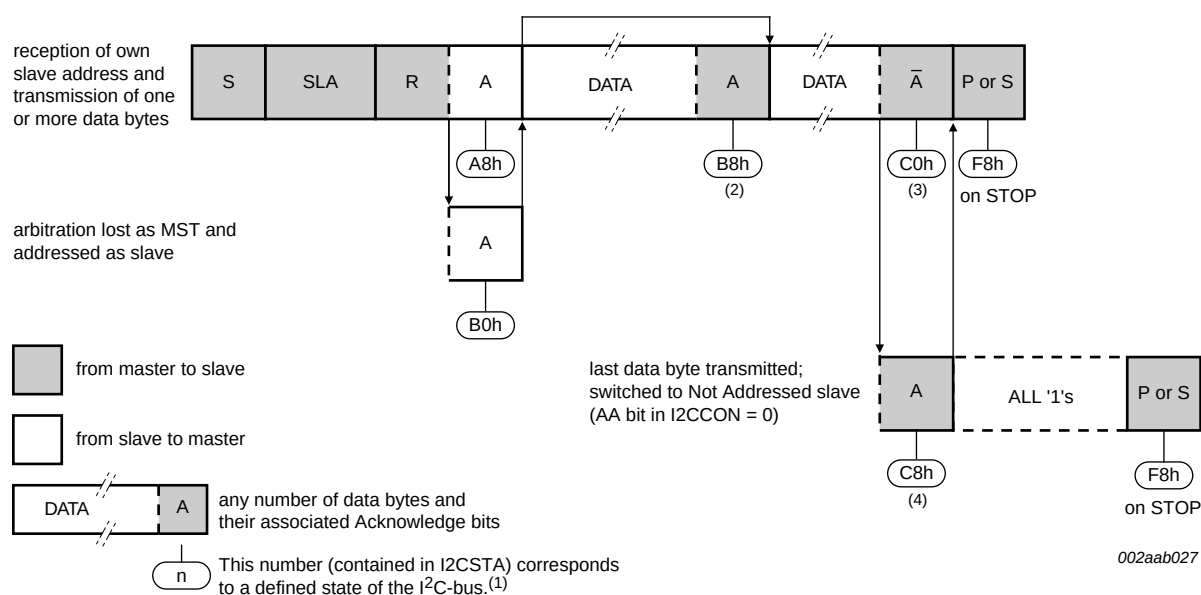

Fig 9. Format and states in the Slave Transmitter Byte mode (MODE = 0)
In the Slave Transmitter Byte mode, a number of data bytes are transmitted to a master receiver one byte at a time (see Figure 9). Data transfer is initialized as in the Slave Receiver Byte mode. When I2CADDR and I2CCON have been initialized, the PCA9665/PCA9665A waits until it is addressed by its own slave address followed by the data direction bit which must be '1' (R) for the PCA9665/PCA9665A to operate in the Slave Transmitter mode. After its own slave address and the R bit have been received, the Serial Interrupt flag (SI) is set, the Interrupt line (INT) goes LOW and I2CSTA is loaded with A8h. This status code is used to vector to an interrupt service routine, and the appropriate action to be taken is detailed in Table 32.